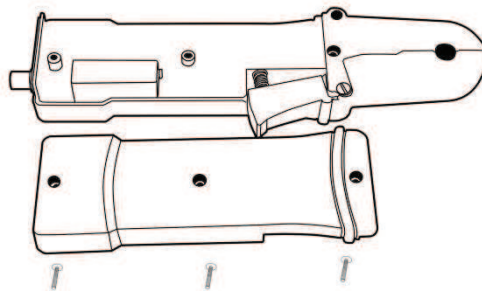

Figure 5: Battery Change
3. Observing polarity, attach the new alkaline battery to the connector buttons and place the battery into the compartment, as illustrated in Figure 5.